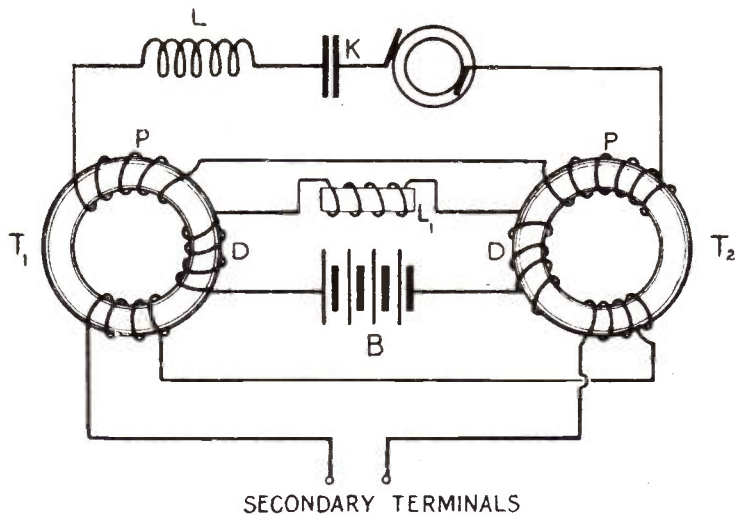

Figure 71. Telefunken frequency raiser - see also Figure 72.
The Telefunken Company system employed two 'transformers' with toroidal cores magnetised almost to saturation by DC through the windings 'D'. The choking coil L prevented high frequency (HF) current flowing into the battery circuit. The alternator was connected to the primary circuit, coils 'P' via its resonant circuit, coil L and capacitor K. Output was from the secondary circuit, coils 'O' - see Figure 71.